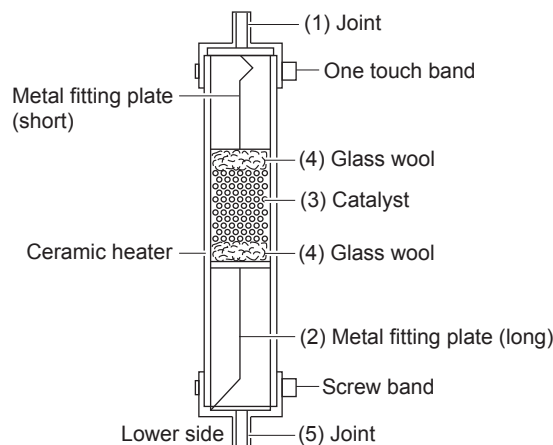

Fig. 2 Replacement of catalyst
- (1) Turn off the main power supply for converter.
- (2) Remove cover when it has cooled down. The cover is fastened by the screws on the side face.
- (3) Next, remove One touch band from the upper joint (1) shown in Fig. 2 with a pair of pliers or other apparatus. the lower joint (5) can be easily removed by shifting it gradually with a blade-edge screwdriver. Attention should be paid not to damage the ceramic heater.
- (4) Pull out the metal fitting plates (2).